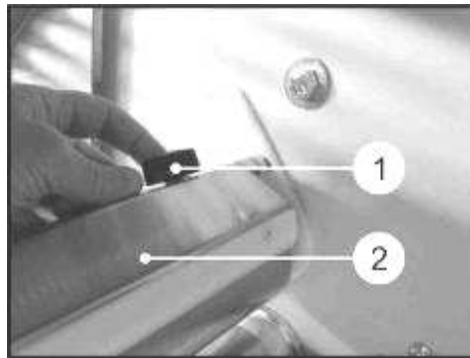

Figure 15
- Unscrew the 3 pawls ref. 1 Figure 15 that fasten the scraper and remove them
- Remove the scraper ref. 2 Figure 15 by pulling it upwards and then clean it